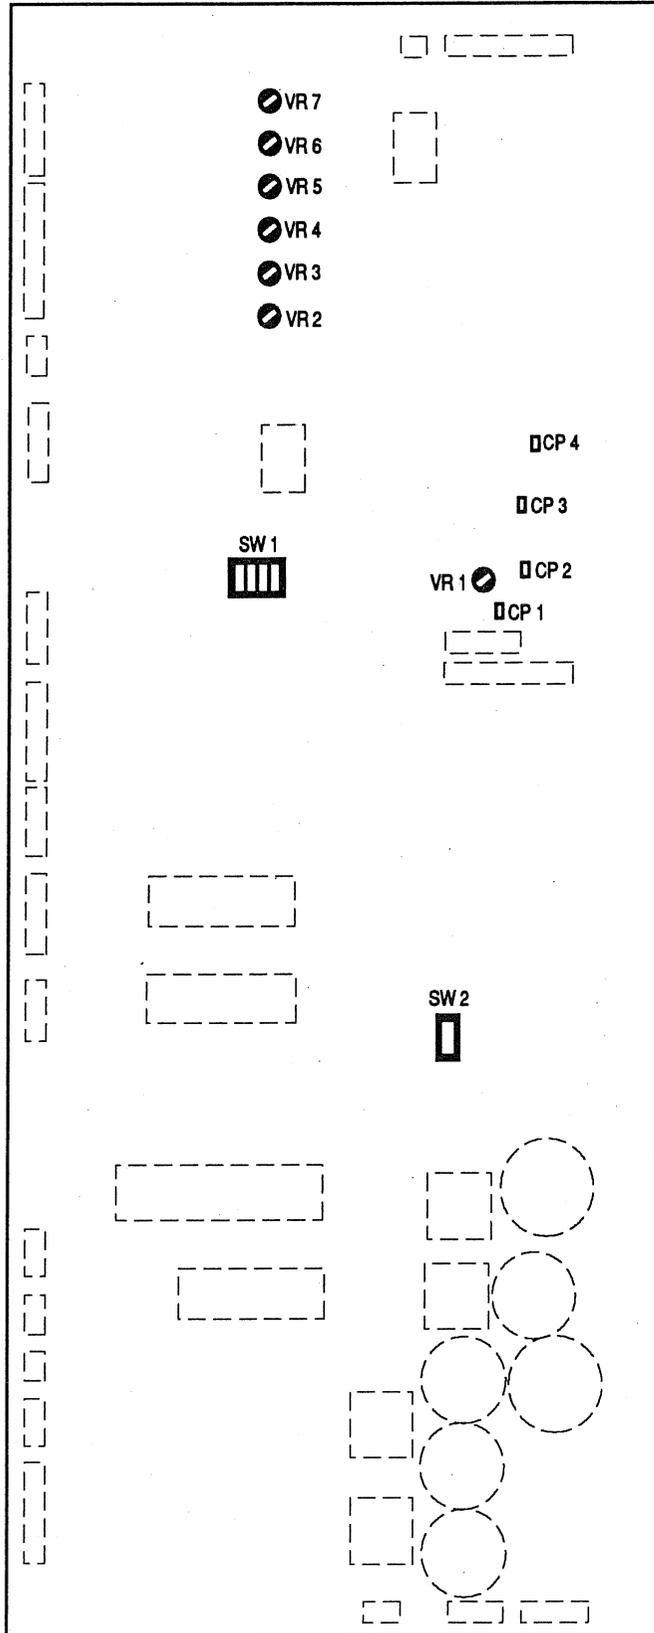

Figure 4-15
4. Connect the oscilloscope to Check Point CP 3 and CP 2 (GND) on the Control PCB. Refer to Figure 4-15.